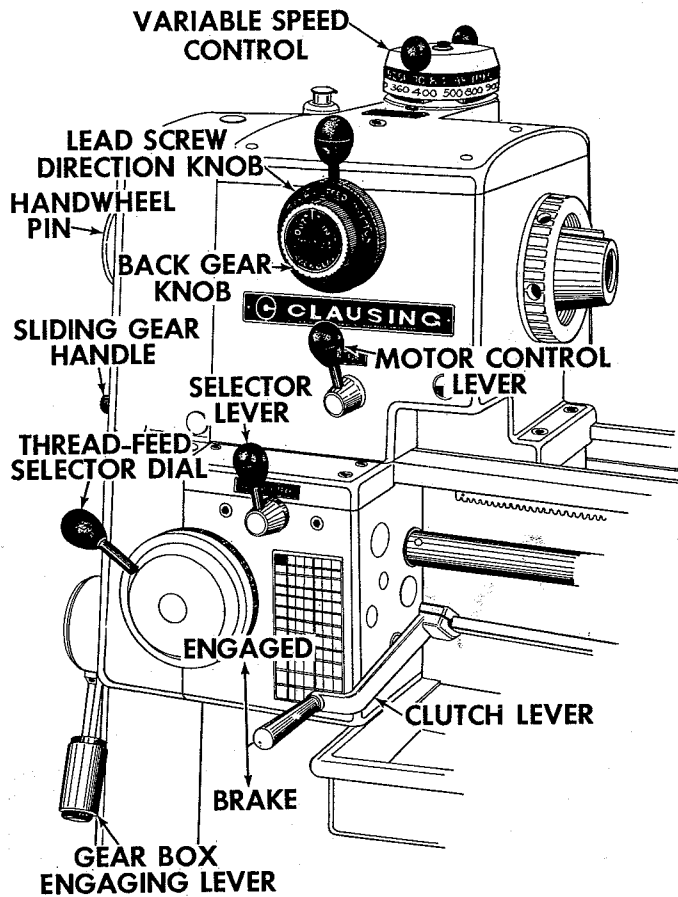

Figure 7
See figure 7 for the location of the controls described below.
Countershaft has friction clutch and brake for starting, stopping and jogging of spindle without stopping the motor. Moving clutch lever up engages spindle drive -- down disengages it and tightens the brake shoe and stops the spindle -- refer to figure 7.
**MOTOR CONTROL LEVER** located on front of headstock controls rotation of lathe spindle. It has three positions -- REVERSE, OFF, and FORWARD -- refer to figure 7.